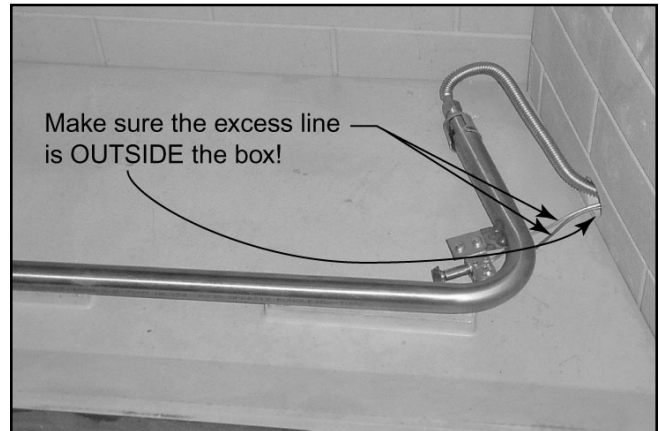

Figure 1 - Placing the Burner Assembly
- a. Place the burner assembly in the appliance, hand-bend the flexible stainless steel gas line as shown in Figure 1 and feed the thermocouple line, pilot line and stainless steel flexible gas line through the hole in the right side of the appliance. **Make sure the excess pilot and thermocouple line is OUTSIDE the box.**
- a. Position the burner tube on the stainless burner supports. See Figure 1.